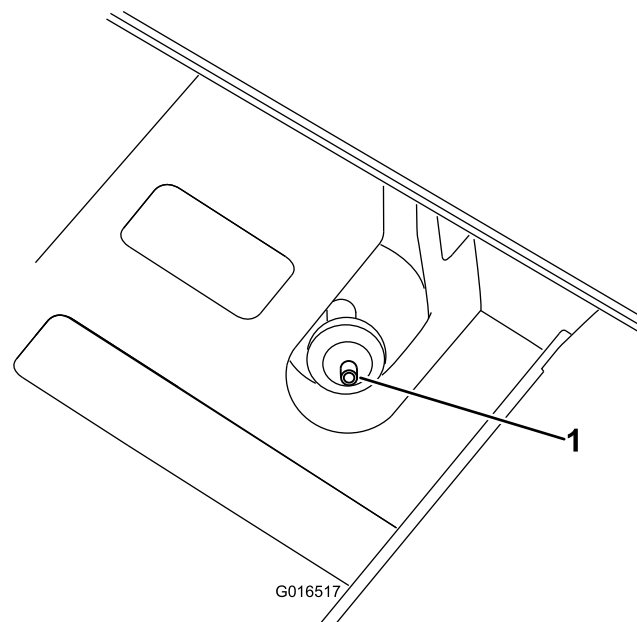

Figure 25
1. Locate the air filter on the bottom of the carbon canister (Figure 25).